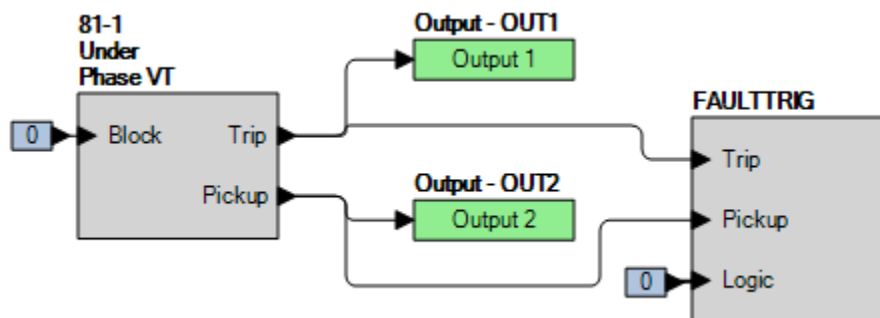

Figure 71-2. *BESTlogicPlus* Settings (Underfrequency)
Step 2: Use *BESTCOMSPPlus* to configure the *BESTlogicPlus* programmable logic shown in Figure 71-2.
Step 4: Prepare to monitor the 81-1 function operation. Operation can be verified by monitoring OUT2 (see Figure 71-2).